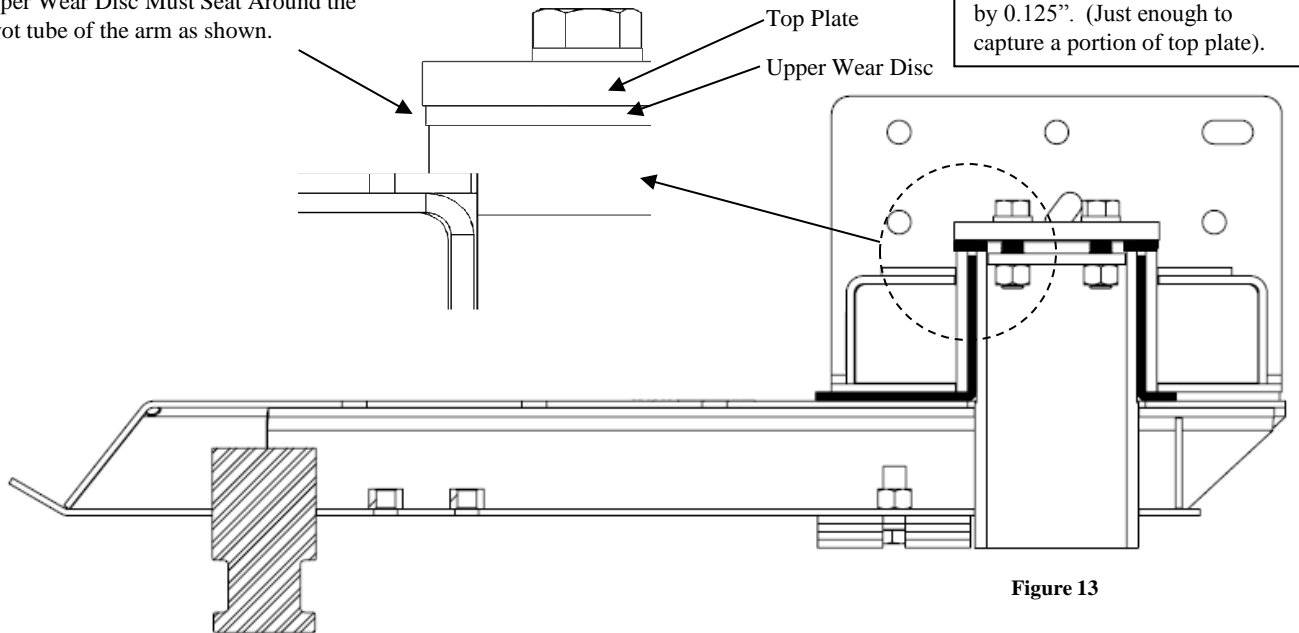

Figure 13
8. Before attempting to fully tighten the (4) 5/8-11 cap bolts, it is necessary to check that the upper wear disc is properly positioned. Refer to the figures below (figure 13).